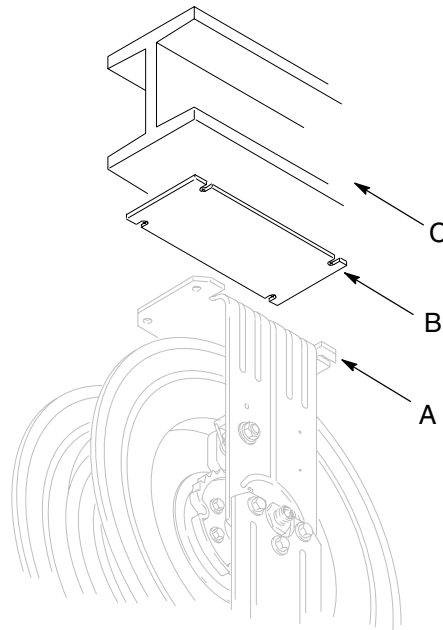

Fig. 6
1. Using the template (B) provided, drill holes in the I-Beam (C). See Fig. 6.